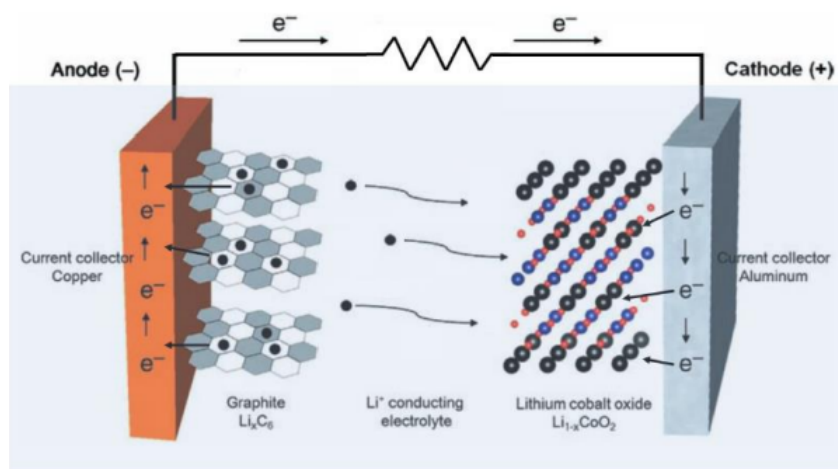

Figure 1: Schematic representation of a LIB in discharge mode with graphite as the anode and  $LiCoO_2$  as the cathode[1].
To understand how a LIB is working one can take a look at figure 1 where a basic construction of a battery is shown. On the side of the cathode we can find metallic Lithiumoxid. To charge the battery we use a power source to pull out the electrons from the anode (OX) and create a current towards the side to the anode (RED). This is a Redoxreaction where one electrode gets oxidized (OX) while the other one gets reduced (RED). Due to the increasing potential the Li-ions start to pass through the electrolyte towards the other side and are stored in the graphite layers. This process is called intercalation of the Li-ions and is going further until the battery is fully charged.